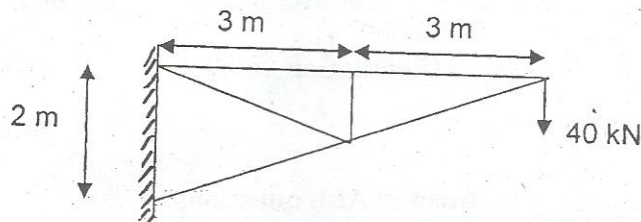

Fig. Q. 11 (b)
- (b) Determine the vertical deflection at the free end of the cantilever truss shown in Fig. Q. 11 (b). Take cross sectional area of compression members as 850 mm^2 and tension members as 1000 mm^2 . Modulus of elasticity, $E = 210 \text{ GPa}$ for all the members.